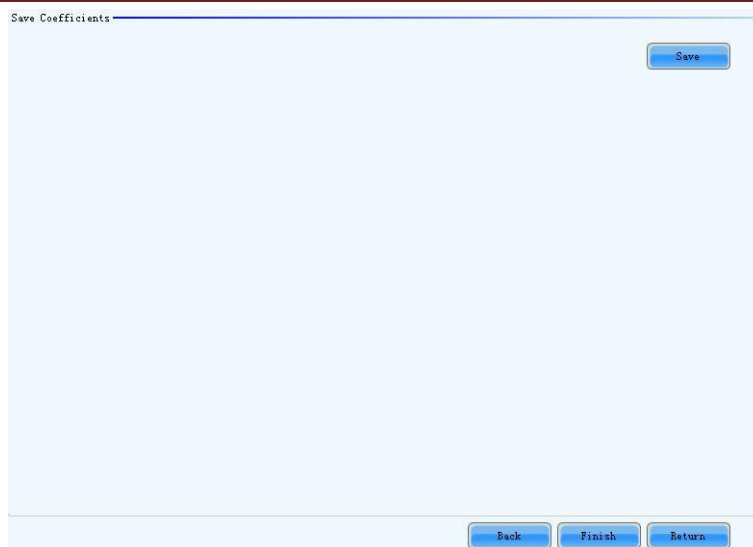

Fig. 7-66 Page for saving calibration coefficients to the hardware
- 4) Save the calibration coefficients to the hardware (FLASH) so they won't be lost when the LED display is powered off. Shown in Fig. 7-66 is the page for saving the coefficients to the hardware. Click the Save button to save the coefficients to the hardware.